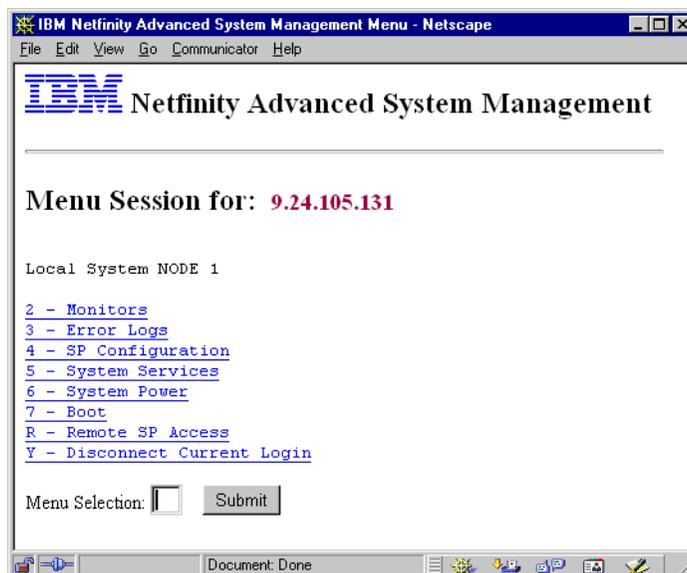

Figure 217. Main Menu Selection
3. After you have logged in you see the main menu as shown in Figure 217: